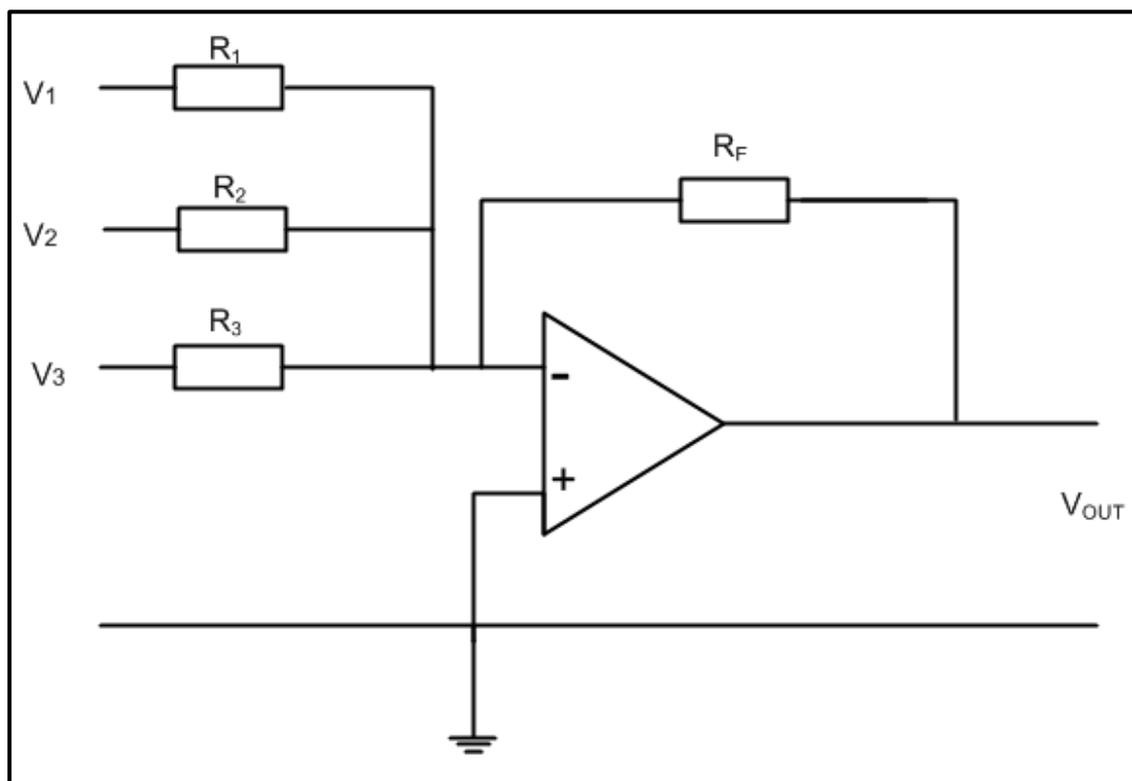

FIGURE 7.3: SUMMING OP-AMP CIRCUIT
- 7.8 Refer to the summing op-amp circuit in FIGURE 7.3 and answer the questions that follow.